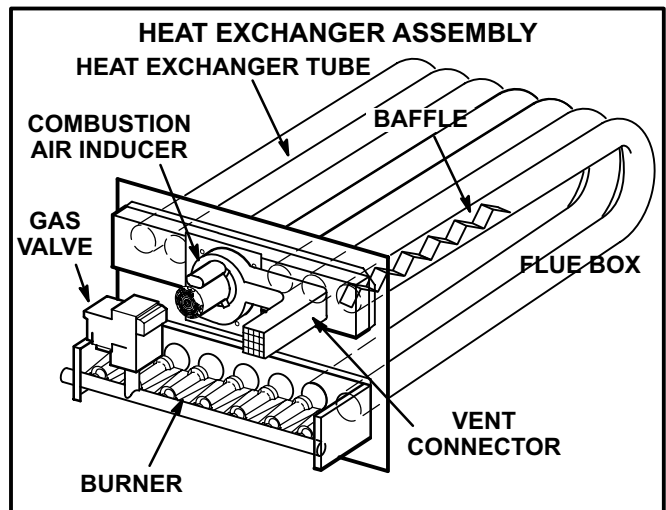

FIGURE 25
- 3- Remove and retain screws securing combustion air inducer to flue box. Remove and retain two screws from bracket supporting vent connector. See figure 25.